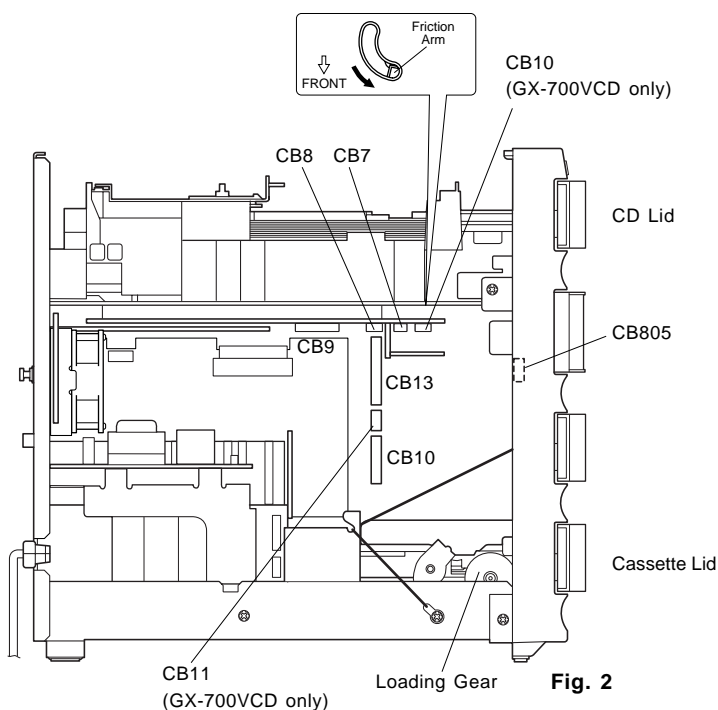

Fig. 2
- Push the Friction Arm (the bottom side of the CD/VCD Mechanical Unit) with the Ejecting Tool or a tool like as shown in Fig. 2.
- Pull the Tray forward approx. 5cm (2") and remove the CD Lid in Fig. 2.
- Disconnect the Flat Connecting Cables (CB9) and remove 3 connectors (CB8 , CB7 and CB10) in Fig. 2
- Rotate the Loading Gear, then open the Tray and remove the Cassette Lid in Fig. 2.
- Disconnect the flat connecting cables (CB10, CB13 and CB11) and remove a connector (CB805) in Fig. 2.
- k. Connect the flat connecting cables (CB10, CB13 and CB11) and remove a connector (CB805) in Fig. 2.